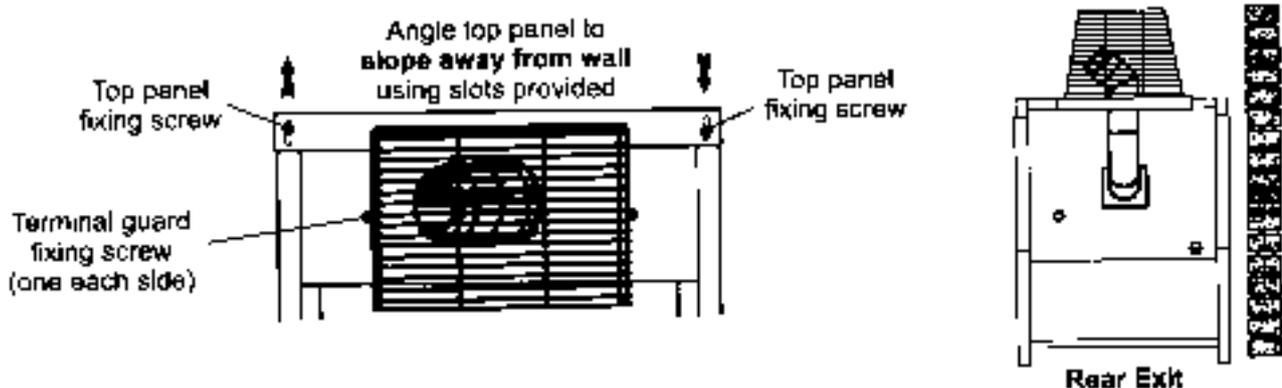

Fig. 12
- 8 The top panel of the casing has been designed so that it may be fitted to create a slight slope away from the side positioned against the wall. To tilt the top panel, loosen the four top panel casing screws, one at each corner and push down on the side furthest from the wall. Tighten the screws. See Fig. 12.